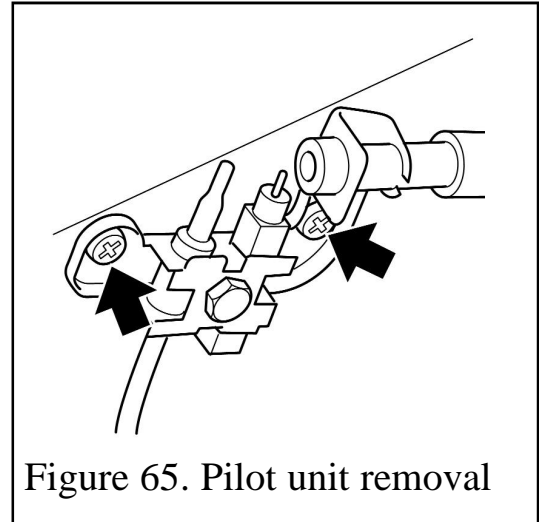

Figure 65. Pilot unit removal
6. Remove the two screws securing the pilot unit (See figure 65).